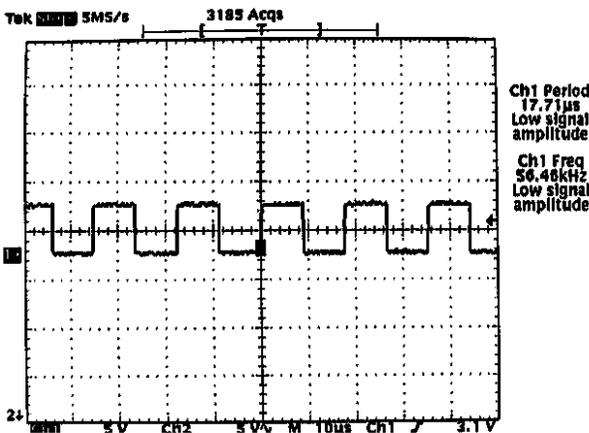

Figure 3.
5. Verify Channel 1 and 2 oscillator sine waveforms (Figure 3) across LA1 and LA2 (surge protectors). The sine wave should be 8 to 10 V peak-to-peak and between 20 and 100 kHz.